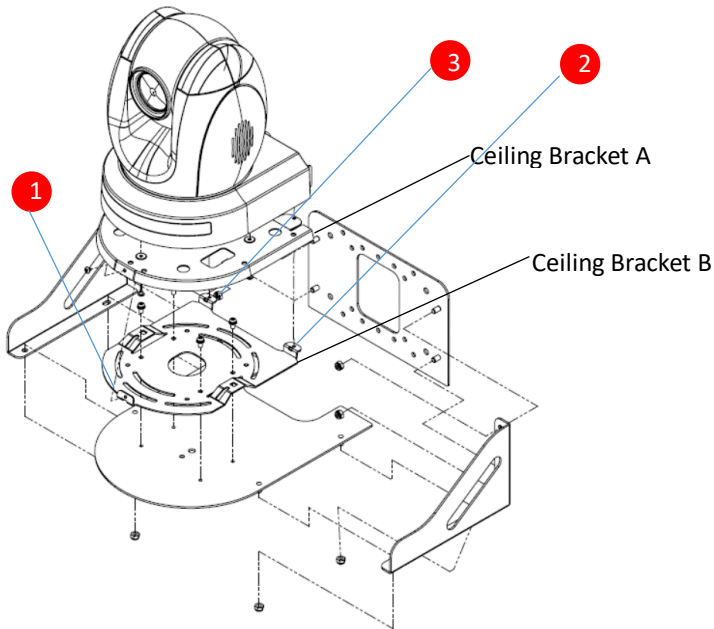

Figure 2. Install the PTC-150 to WM-1
Step 3. Mount the PTC-150 to the ceiling bracket B as shown as the Figure 2.